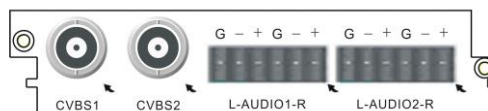

Fig. 5-65 MPEG2 SD AENC Card
MPEG2 SD AENC Card provides the video input interface of 75ΩBNC, and provides audio input interface as the phoenix printed circuit board terminals of MINI COMBICON (MC) socket and plug, plug direction parallel with conductors axial. MPEG2 SD AENC Card is shown in Fig. 5-65 MPEG2 SD AENC Card: